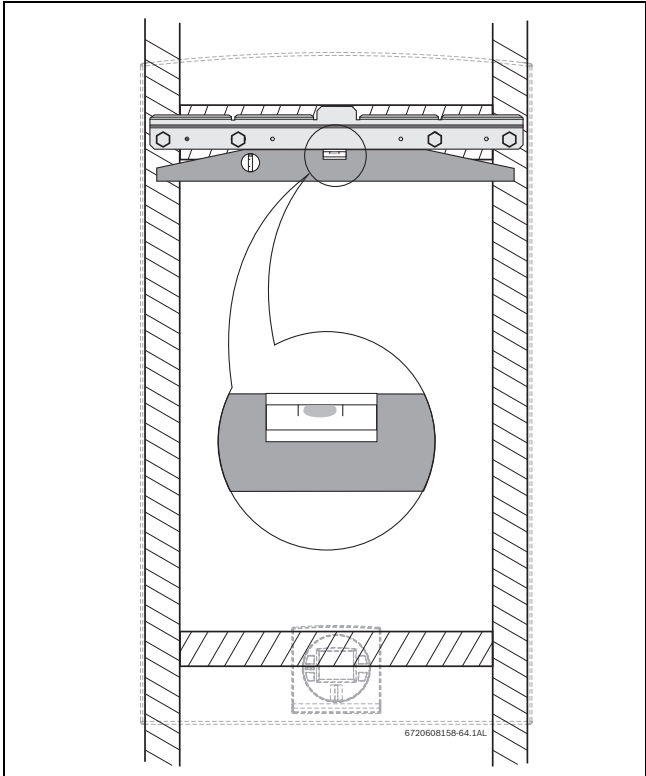

Fig. 32 Leveling wall mounting bracket
- ▶ Secure the wall mounting bracket provided with the heater to a wall surface. The heater must be kept level on the wall surface, see fig. 32, page 29.